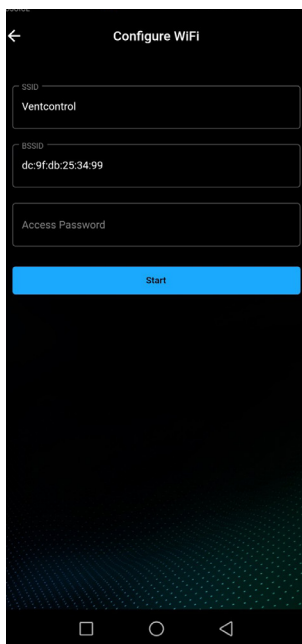

Рис. 4
- 6) If you are connected to a network, its data will be entered (Figure 4)